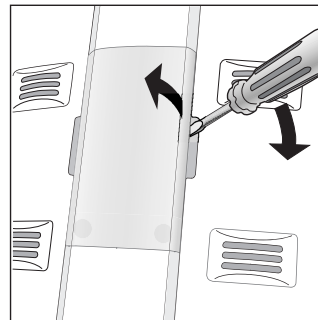

Fig. 4
- How to replace the internal lamp. The lamp for the internal light is situated at the rear of the thermostat box. To replace it, disconnect the appliance from the electricity mains, unscrew the burned out bulb and replace it with another bulb with a wattage no higher than 10 Watt, follow the instructions illustrated in fig. 4.